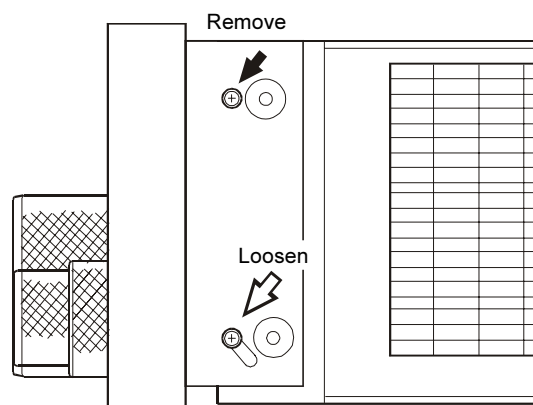

Figure 3
5. Referring to Figure 3, remove the screws (←) at the top left and top right that hold the front panel assembly in place, and loosen the two screws (↔) at the bottom left and bottom right, so they can hold the front panel as it is folded forward.